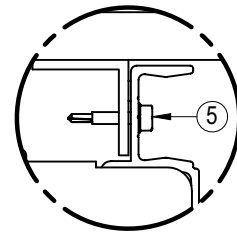

FIGURE 1
- 2b) Locate and install 1" x 1" x .100" mounting angles to the wall in desired location. The mounting angles shall be installed perpendicular to the floor as per Figure 1 and spaced apart as per dimension given in Table 2. Failure to position angles upright and perpendicular to the floor will result in poor installation. Fasteners supplied by others
- 2b) Locate and install 1" x 1" x .100" mounting angles to the wall in desired location. The mounting angles shall be installed perpendicular to the floor as per figure 1 and spaced apart as per dimension given in table 2. Failure to position angles upright and perpendicular to the floor will result in poor installation. Fasteners supplied by others.